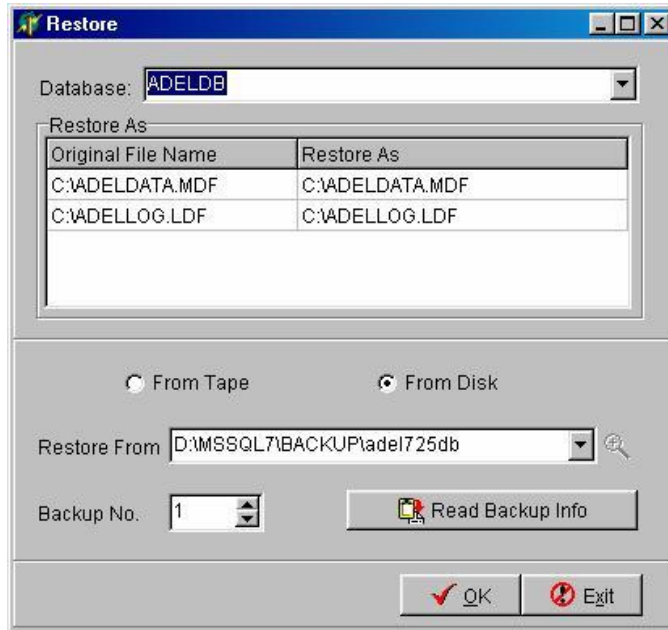

Figure 4-5
- 4) if the database is damaged and the software can not be run, the backup file can be used to restore the system. Click **Restore** button to enter Restore window as shown in Figure 4-5.